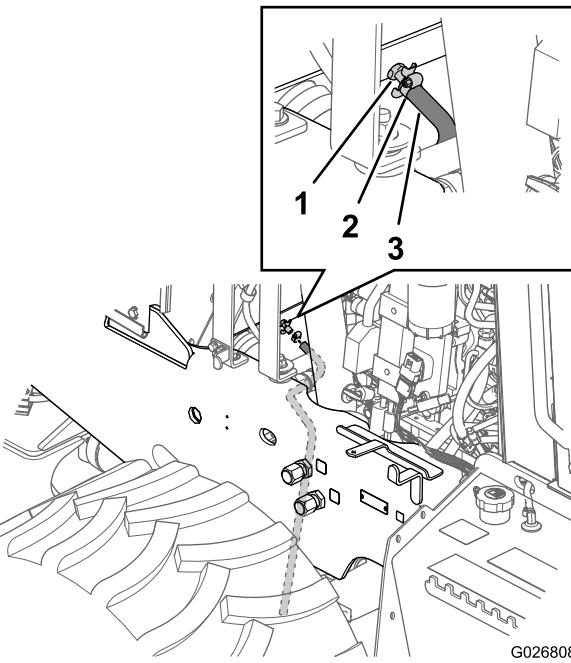
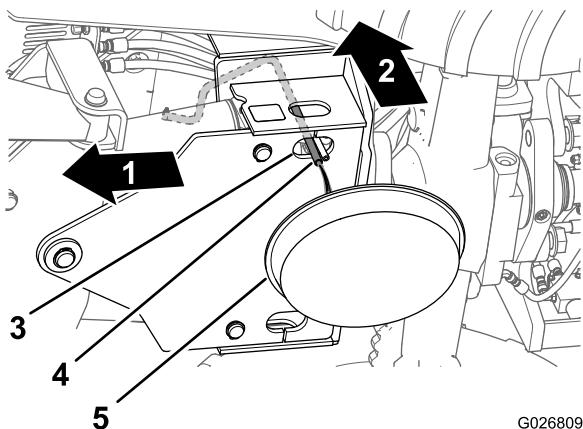

Figure 104
Figure 105
4. Slip a coolant resistant hose that is 3/8 x 30 inches over the outlet for the drain valve in the radiator (Figure 104).
5. Secure the hose to the drain valve with a hose clamp (Figure 104).
6. Route the hose down and through the hole in the lower mounting plate for the back fill blade (Figure 105).
7. Place a drain pan with a minimum capacity of 23 L (6 gallons) under the open end of the drain hose (Figure 105).
10. Remove the drain hose and clamp (Figure 104 and Figure 105).
- D. Open the drain valve and drain the cleaning solution into a drain pan (Figure 104 and Figure 106).